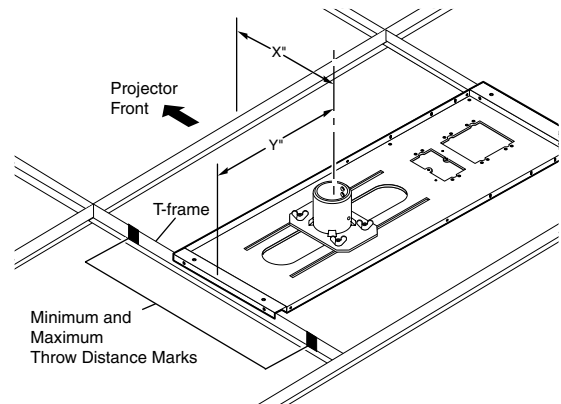

Figure 2 — Minimum and maximum throw distances
- Remove the ceiling tile, and mark the projector's maximum and minimum throw distances on the T-frame (see figure 2).
- b. Measure the distances X and Y (see figure 2) from the inner vertical section of the front and left T-frame runners to the center of the Pipe Adapter Plate.